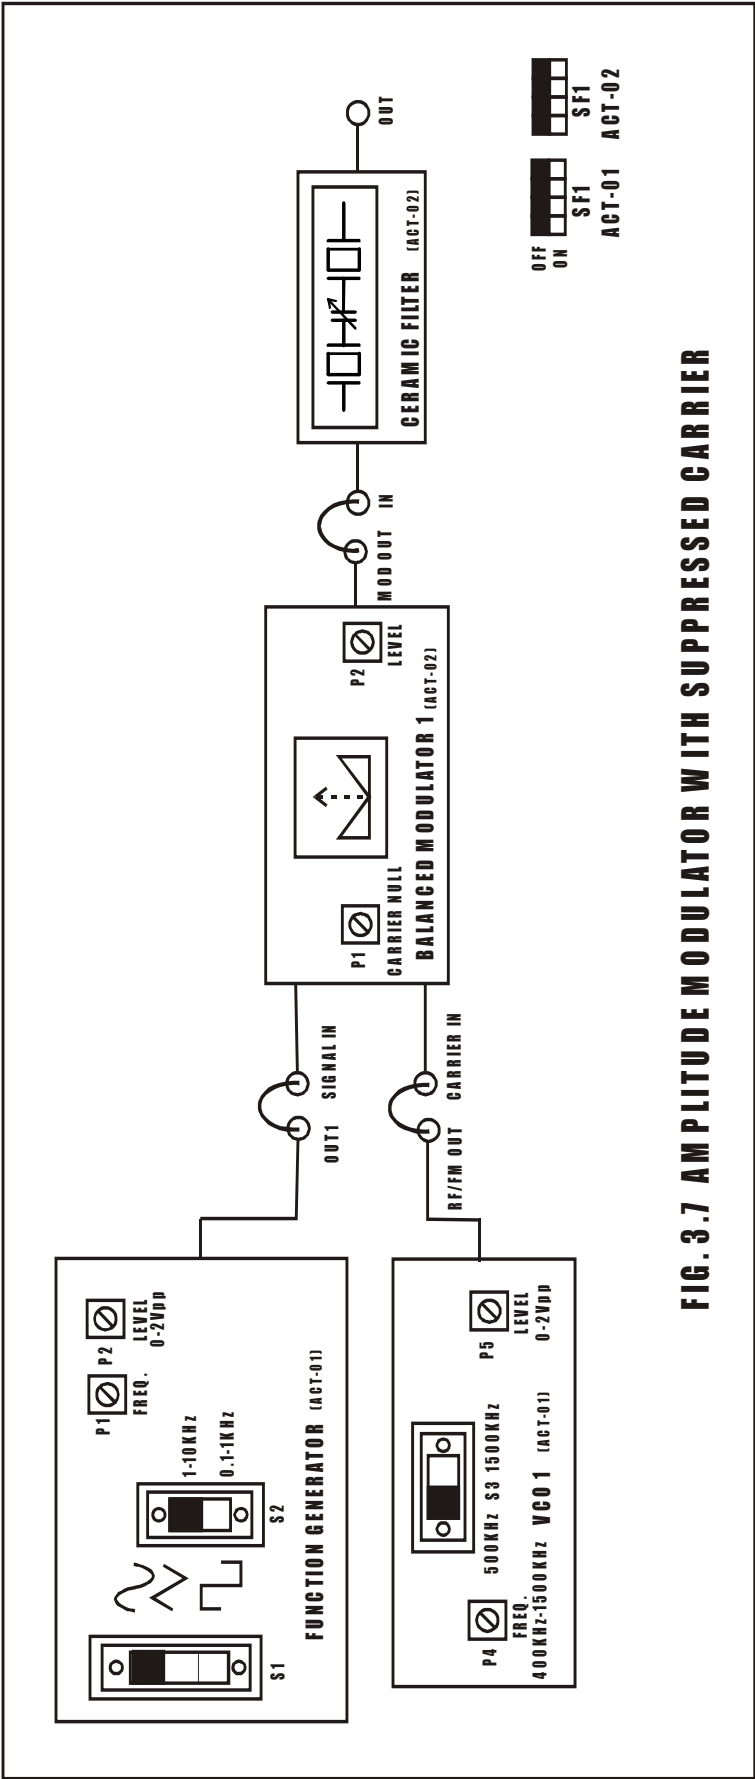

FIG. 3.7 AMPLITUDE MODULATOR WITH SUPPRESSED CARRIER
- Refer to the fig.3.7 & Carry out the following connections and settings.